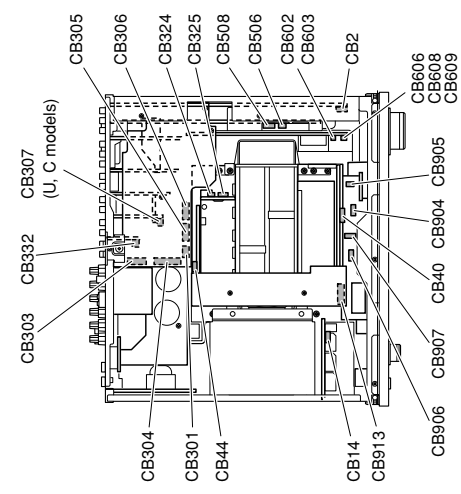

Fig. 3
- c. Remove CB2, CB14, CB904 ~ CB907, and CB913. (Fig. 3)
- c. CB2、CB14、CB904～CB907、CB913を外します。(Fig. 3)
- c. Remove 1 screw (⑪) and 4 screws (⑫). (Fig. 3)
- d. Remove CB301 and CB303 ~ CB306. (Fig. 3)
- c. ⑪のネジ1本、⑫のネジ4本を外します。(Fig. 3)
- d. CB301、CB303～CB306を外します。(Fig. 3)
- d. Remove CB40, CB44, CB307 (U, C models), CB325, CB332, CB506, CB508, CB602, CB603, CB606, CB608 and CB609. (Fig. 3)
- b. Remove CB324. (Fig. 3)